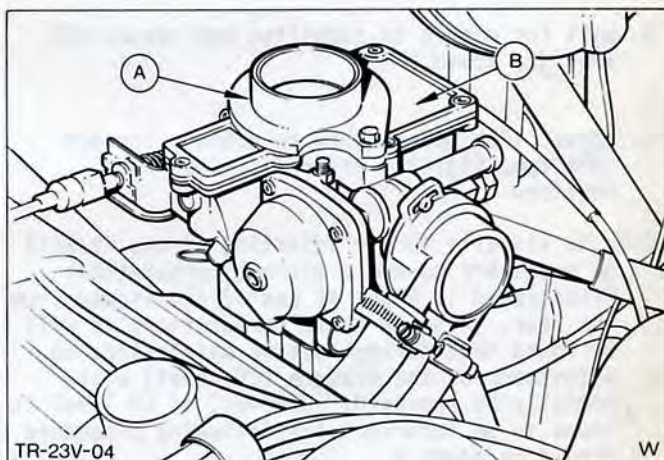

Fig.40. Air cleaner mounting adaptor removal.
5. Remove two bolts and detach carburettor to air cleaner mounting adaptor, Fig.40.
6. Remove seven screws and detach carburettor top cover, Fig.40.